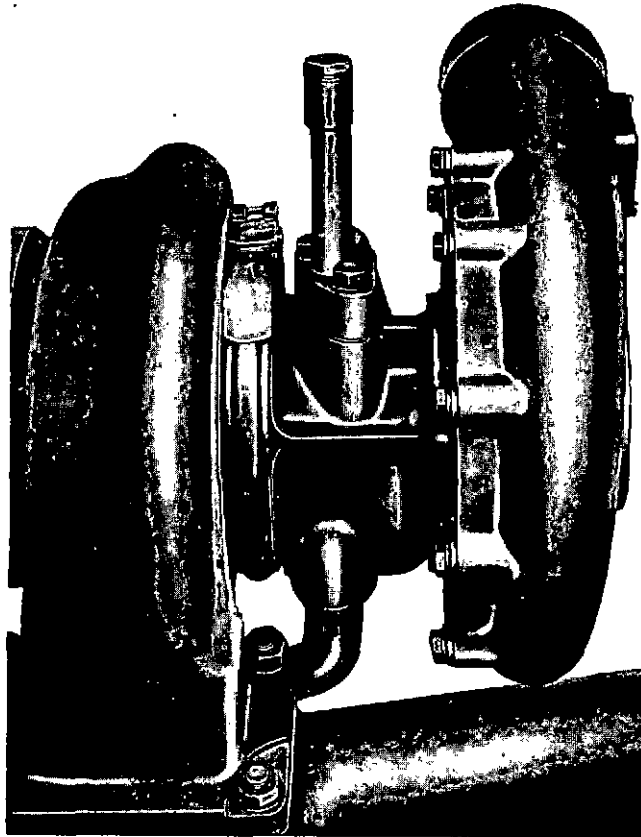

Fig. 3 Holset turbocharger
10. Prime the turbocharger (fig. 3) with clean engine lubricating oil. (See Chapter 3, Section 6 for details).